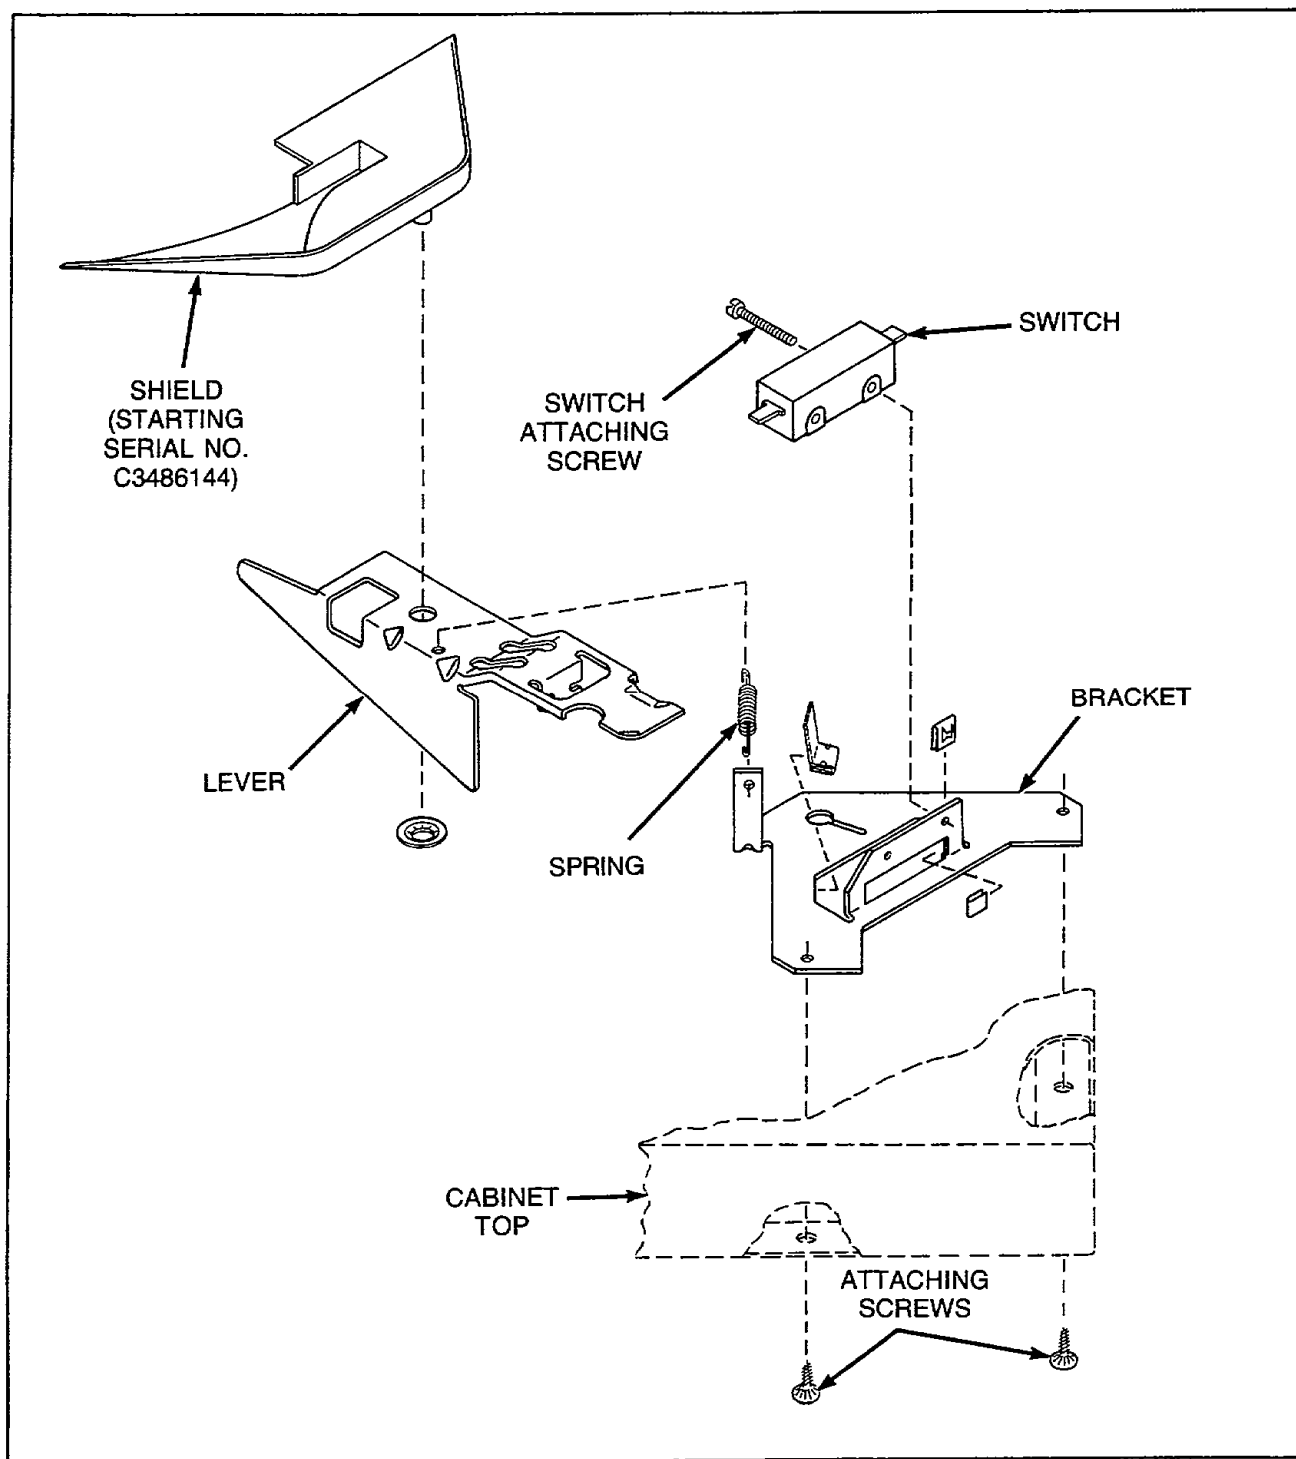

Figure 19
18. DOOR AND OUT-OF-BALANCE SWITCH AND BRACKET ASSEMBLY *(Refer to Figure 19)*